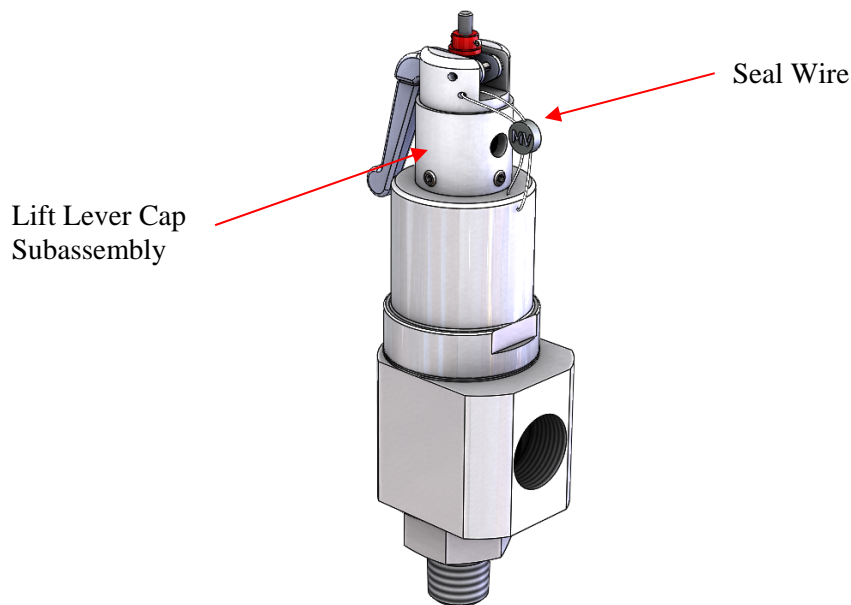

Figure 17: Lift Lever Cap
1. Cut and remove the seal wire. See Figure 17.